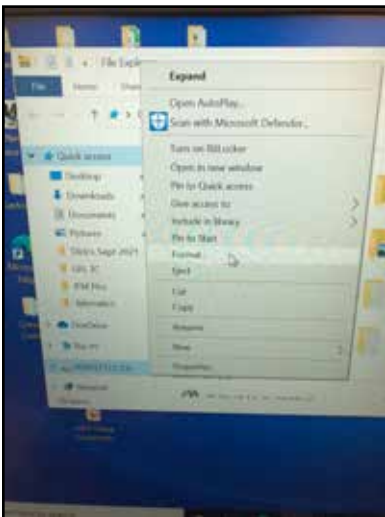

Figure 3
4. Select "Format". See Figure 3.